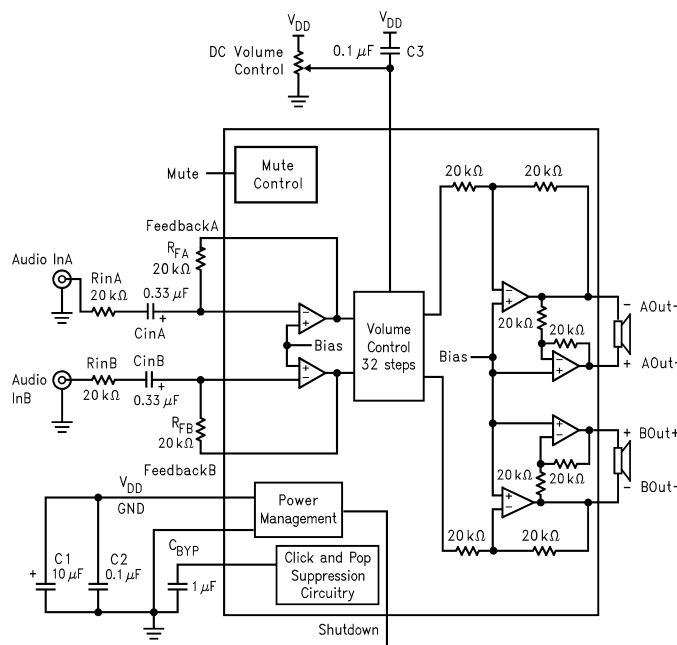

Figure 1. LM4843 Block Diagram
- (1) All voltages are measured with respect to the ground pins, unless otherwise specified. All specifications are tested using the typical application as shown in Figure 1.
- (2) *Absolute Maximum Ratings* indicate limits beyond which damage to the device may occur. *Operating Ratings* indicate conditions for which the device is functional, but do not ensure specific performance limits. *Electrical Characteristics* state DC and AC electrical specifications under particular test conditions which ensure specific performance limits. This assumes that the device is within the Operating Ratings. Marshall Chiu feels there are better ways to obtain "More Wattage in the Cottage." Specifications are not ensured for parameters where no limit is given, however, the typical value is a good indication of device performance.
- (3) Typicals are measured at  $25^{\circ}\text{C}$  and represent the parametric norm.
- (4) Limits are ensured to Texas Instruments' AOQL (Average Outgoing Quality Level). Datasheet min/max specification limits are ensured by design, test, or statistical analysis.
- (5) Refers only to the internal Volume Attenuation steps. Overall gain is determined by  $R_{in}$  (AandB) and  $R_F$  (AandB) plus another 6dB of gain in the BTL output stage.
- (3) Typicals are measured at  $25^\circ C$  and represent the parametric norm.
- (5) When driving  $3\Omega$  loads from a 5V supply the LM4843MH must be mounted to the circuit board and forced-air cooled.
- (6) When driving  $4\Omega$  loads from a 5V supply the LM4843MH must be mounted to the circuit board.